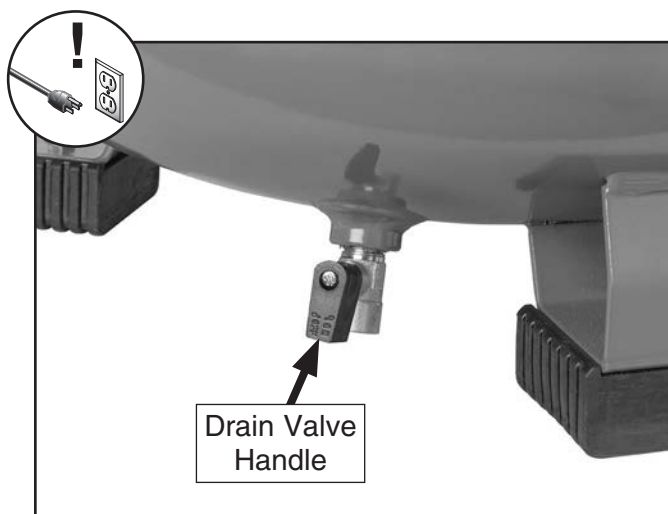

Figure 25. Drain valve handle open.
3. Open drain valve to release any remaining air (see **Figure 25**).